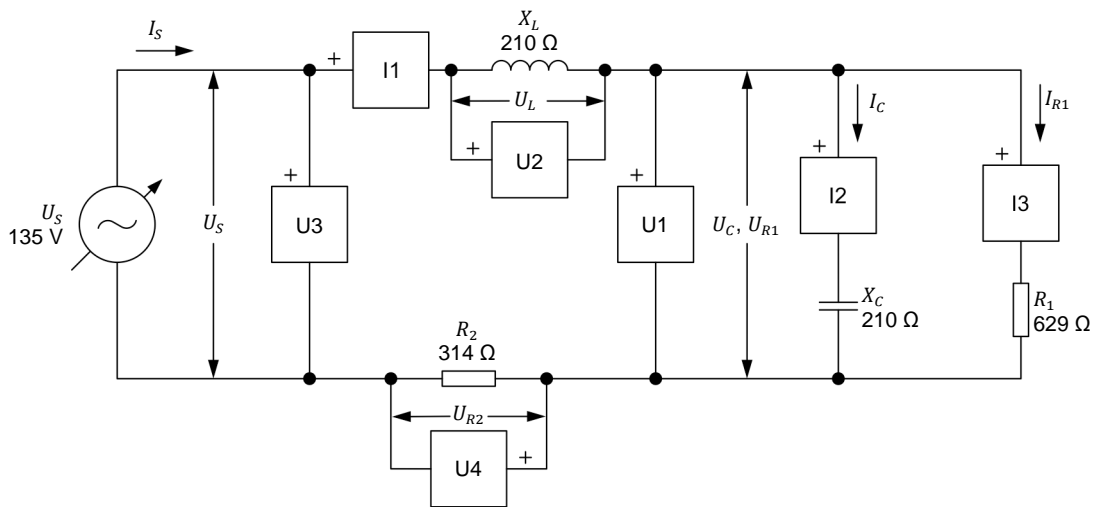

Figure 4-9. AC circuit containing two resistors, an inductor, and a capacitor, and set up for circuit analysis.
4. Set up the circuit shown in Figure 4-9.
6. Resolve the entire circuit of Figure 4-9 using the power triangle method. Assume that the capacitor voltage U_C ($U_C = U_{R1}$) is equal to 70.0 V.